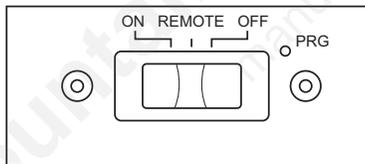

Figure 52 - Remote Selector Switch in ON Position
- Wait one minute and switch selector switch to the ON position to light burners (see **Figure 52**). When using in the ON position (without remote) burners will light on high. There is no adjustment to the flames without using remote.
When batteries in receiver are low, no acoustic signal will be given when ON/OFF button is pressed. If batteries in receiver are low, fireplace can be switched on manually by moving remote selector switch to ON (see **Figure 52**).